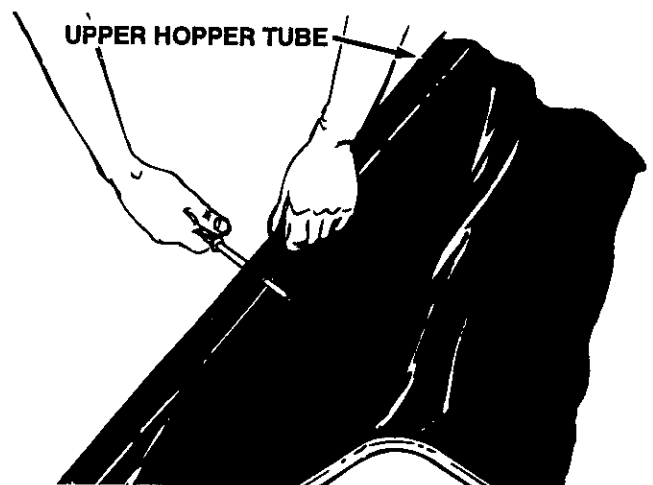

FIGURE 16
- Locate (by touch) the hole in each upper hopper tube, approximately midway along the side of the bag. Pierce holes through the stitched bag flaps, aligned with the holes in both hopper tubes. See figure 16.